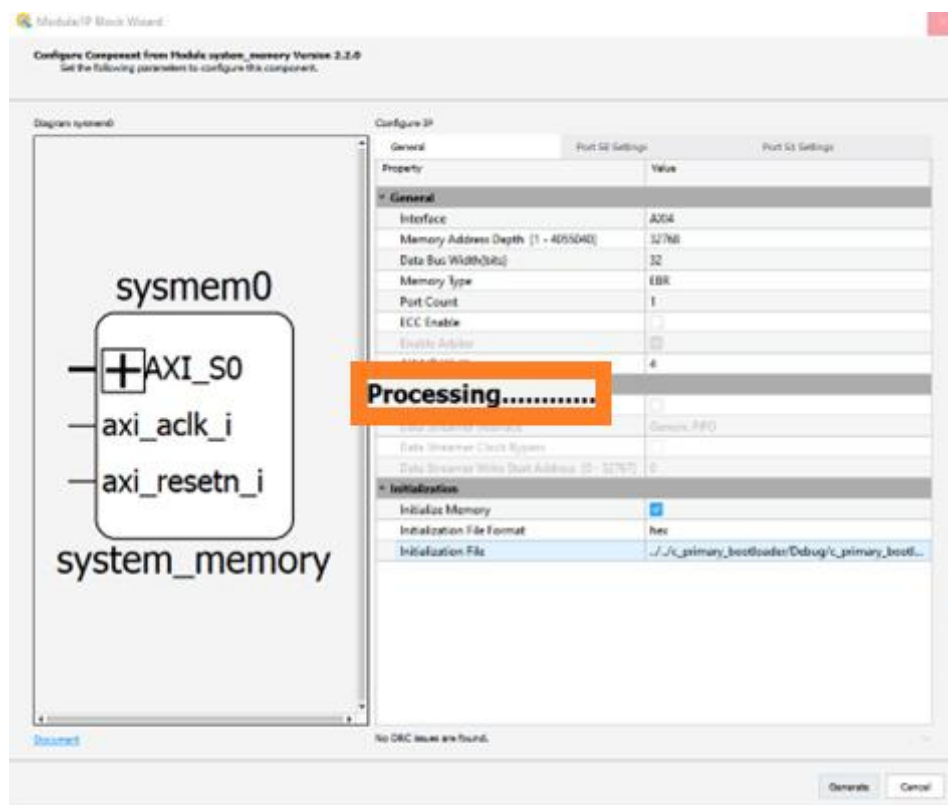

Figure 8.44. Click Generate
8. Click **Generate** on the bottom-right corner of the IP Block wizard as shown in Figure 8.44.